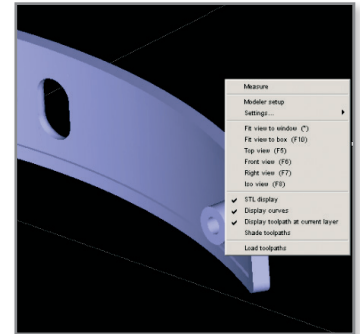

Figure 1: Measure Part
- A. View Road-width measurements in Insight by right-clicking in the graphics window and selecting Measure (figure 1)